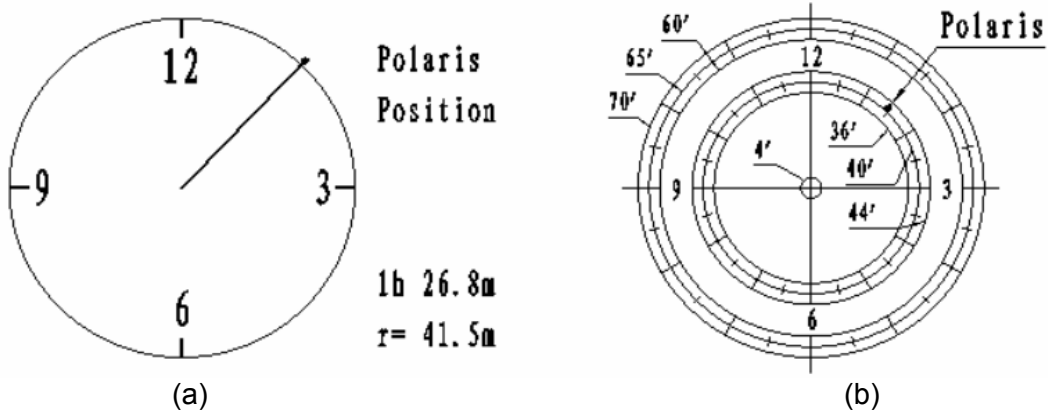

Figure 12. Place the Polaris at the position as shown on hand controller
6. Make sure that the time and site information of the hand controller is correct. Press the **MENU** button, then select "**Align**" and "**Pole Star Position**" to display the current Polaris position. For example, on May 30, 2010, 20:00:00 in Boston, United States (Lat N42°30'32" and Long W71°08'50", 300 min behind UT, DST set to Y), the Polaris Position is 1hr 26.8m and $r = 41.5m$, as shown in Figure 12 (a).
7. Adjust the mount in altitude (latitude) and azimuth (heading) direction to place Polaris in the same position on the Polar Scope Dial as indicated on the HC LCD. In this case, the Polaris will be located at a radius of 41.5' and an angle of 1 hour 26.8 minute, as shown in Figure 12 (b).